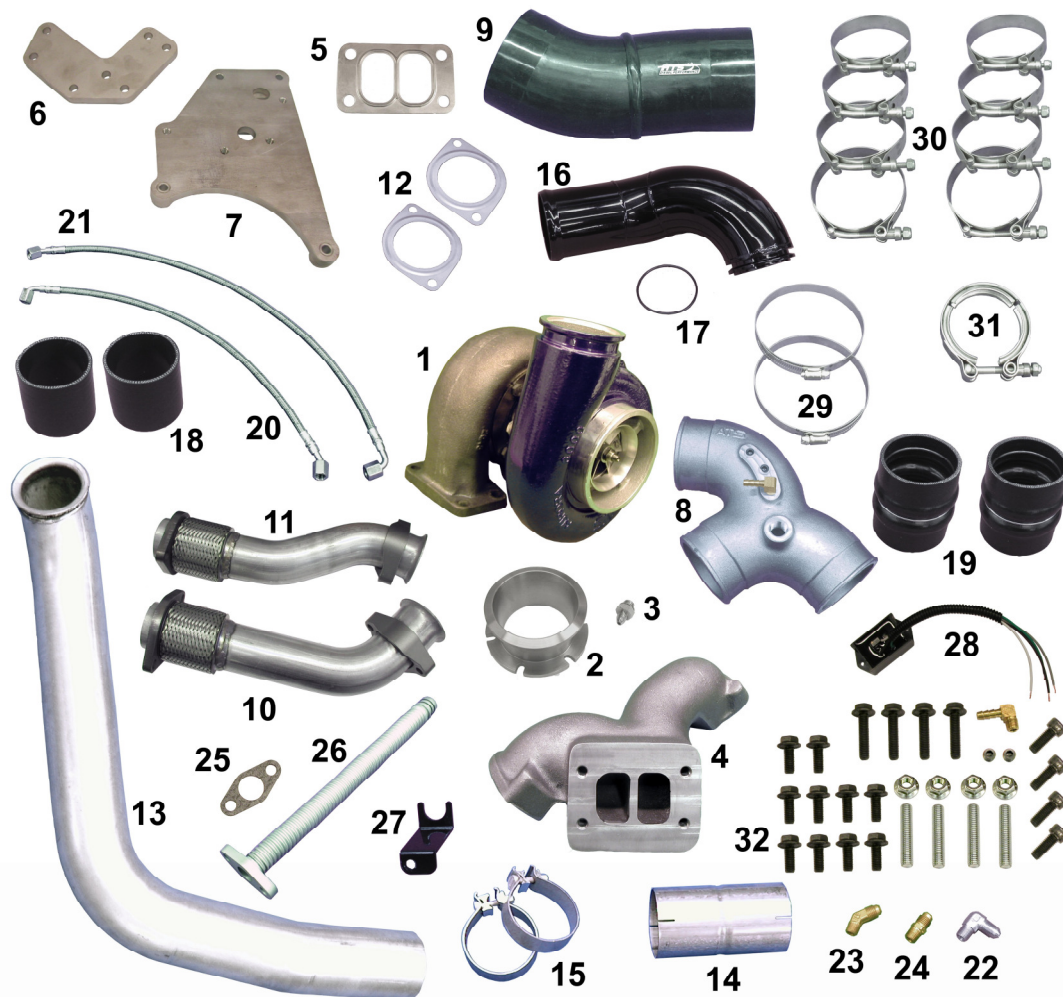
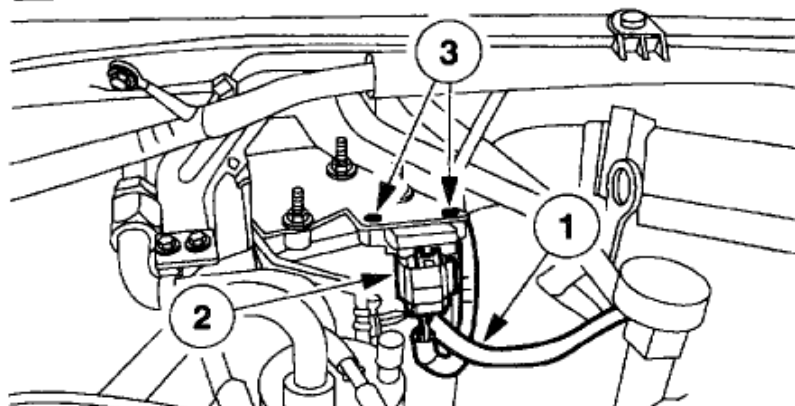

Figure 1 - Full Kit Photo
Figure 17 - MAP Sensor Location
14. Remove the fuel return line running from the back of the passenger side head to the front of the engine. Replace this line with the fittings and braided line supplied in the kit (#21, Figure 1). Be sure to use a thread sealer on the pipe threads that go into the head and fuel filter housing.
16. Install the new oil supply line (#20, Figure 1) as shown.
18. Install the passenger side up-pipe by first placing the pedestal flange gasket on the up-pipe and slide the end of the up-pipe into the pedestal. Push the up-pipe into place by sliding the flared end of the up-pipe over the port on the exhaust manifold (the up-pipe should snap into place). Align the gasket (#12, Figure 1) and flange with the holes in the pedestal. Install the new socket head cap screws included in the kit.
24. Place the new turbo flange gasket (#5, Figure 1) on the pedestal.
27. With the new drain tube bent to shape, carefully remove the turbo and bolt the drain tube to the oil drain port on the turbo cartridge. Don't forget to install the drain tube gasket (#25, Figure 1). Reinstall the o-rings on the drain tube if they were removed.
33. Using the hose clamps provided (#29, Figure 1), install the new silicone intake boot between the compressor inlet and the factory intake junction. It will likely be necessary to remove the two 6mm bolts holding the junction in place.
36. Using the new 3" silicone couplers (#18, Figure 1) and the 3.5" clamps provided in the kit, install the Arc-Flow intake in place of the factory compressor manifold.
37. Install a silicone coupler (#19, Figure 1) between the passenger side factory charge pipe and the top port on the Arc-Flow manifold using the
39. Connect the electronic MAP signal voltage cap (MAP CAP) included in the kit (#28, Figure 1) as shown in Figure 18. This will prevent the MAP sensor (#2, Figure 17) from measuring higher than factory boost and setting a check engine code.
41. Install the new charge pipe (#16, Figure 1) between the compressor outlet and the intercooler charge pipe using the silicone coupler (#19, Figure 1) and clamps provided. The best way to do this is install the silicone coupler on the charge pipe making sure the internal rib is seated on the factory charge pipe. Then slide the charge pipe into the coupler and connect the
- v-band flange to the compressor housing using the 3" v-band clamp provided (#31, Figure 1). Don't forget to install the o-ring (#17, Figure 1).